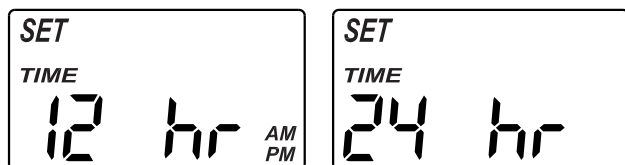

FIG. 30
2. Press the SELECT button three times, so that "12 hr" or "24 hr" flashes in the display (See Figure 30).